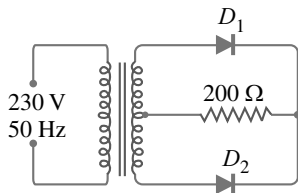

Fig. 4.88
10. In Fig. 4.88, the maximum voltage across half of secondary winding is 50 V. Find (i) the average load voltage (ii) peak inverse voltage (iii) output frequency. Assume the diodes to be ideal. [(i) 31.8 V (ii) 100 V (iii) 100 Hz]